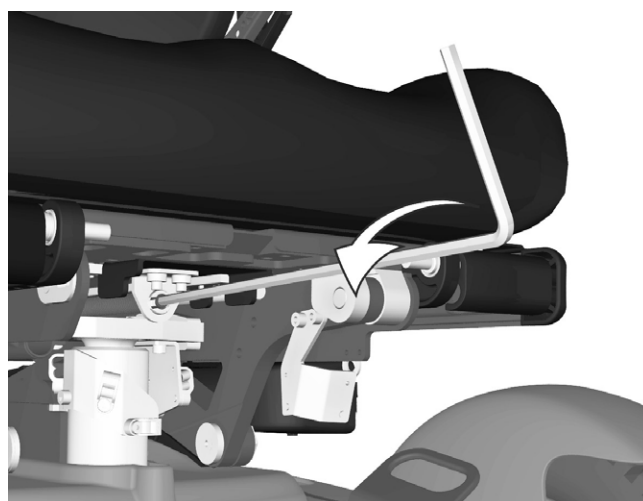

Figure 81. Use the Allen tool from the back rest to manually adjust the height of the seat elevator.
1. Fold the leg rest upwards to get access to the seat elevator axle. **NOTE!** In fig. 81 the seat is shown without the leg rest to get a better view. However, the leg rest do not need to be removed for this operation.
2. Use the Allen tool from the back rest to manually adjust the height of the seat elevator i.e. rotate the axle. See fig. 81.